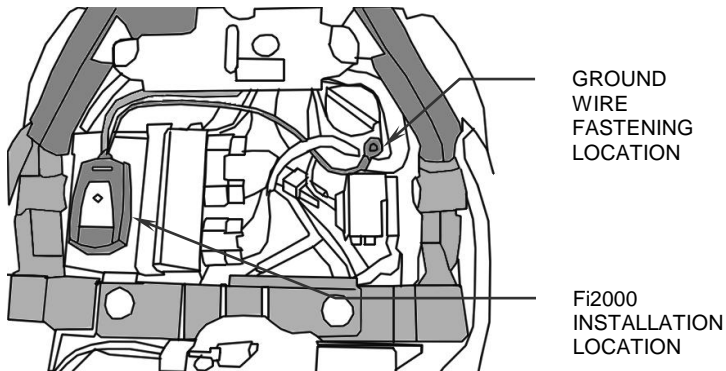

FIGURE 5
7. Using the supplied Velcro pads, place the module in the position shown, in Figure 5. Attach the black ground wire from the Fi2000 to the 5 mm socket head bolt securing the battery ground wire, see Figure 5. Before reinstalling the seat, verify connections.